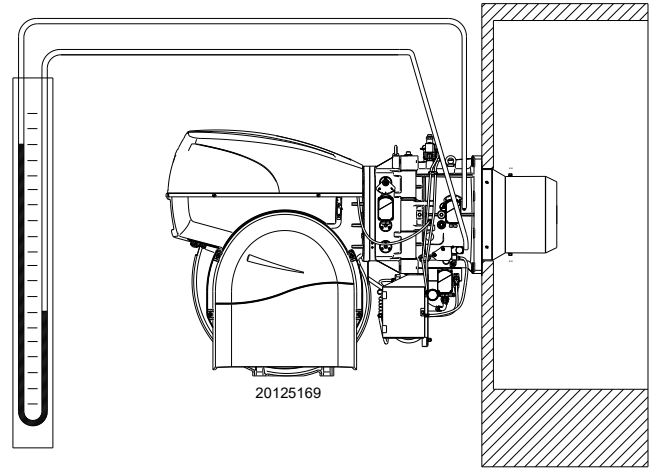

Fig. 33
- Fit a U-type pressure gauge or a differential pressure gauge (Fig. 33), with socket (+) on the gas pressure of the pipe coupling and (-) in the combustion chamber. The manometer readings are used to calculate MAX burner output.
The arrival of gas at the sleeve is indicated by the U-type manometer (Fig. 33).